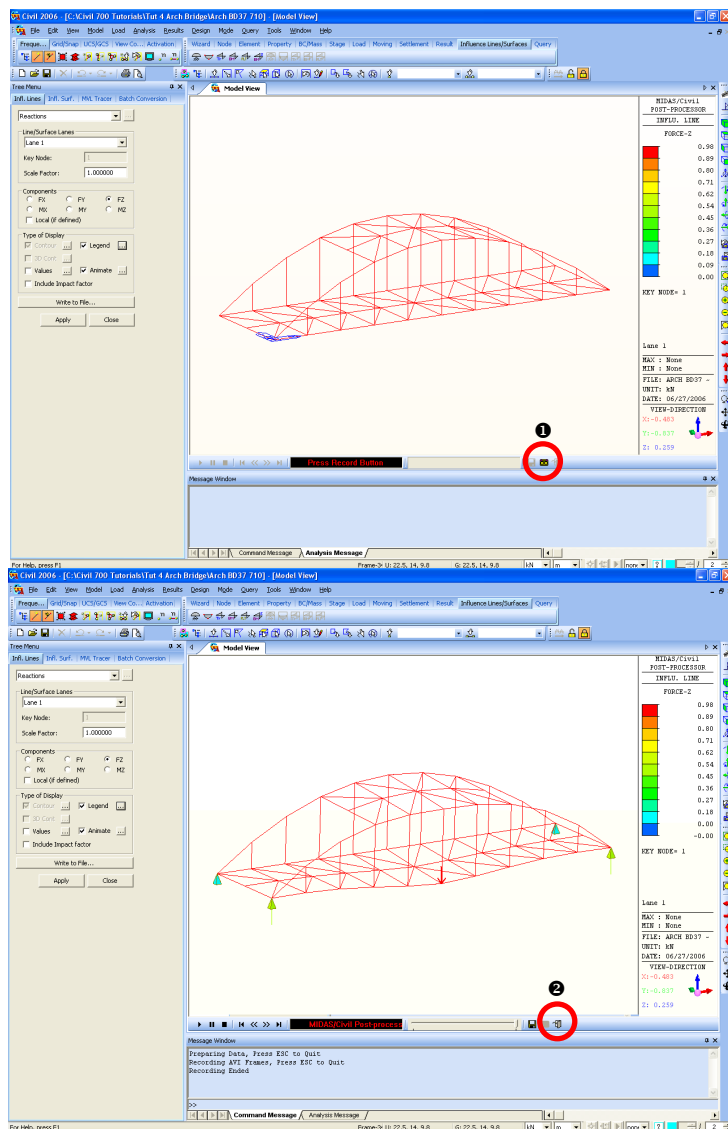

Figure 4.30 Animation of Support Reaction Influence Line
Use animation to investigate the results of the support reaction influence line (Figure 4.30).
After reviewing the animation, click Close to restore the original screen (Figure 4.30).
3. Click **Record** (Figure 4.30 1).